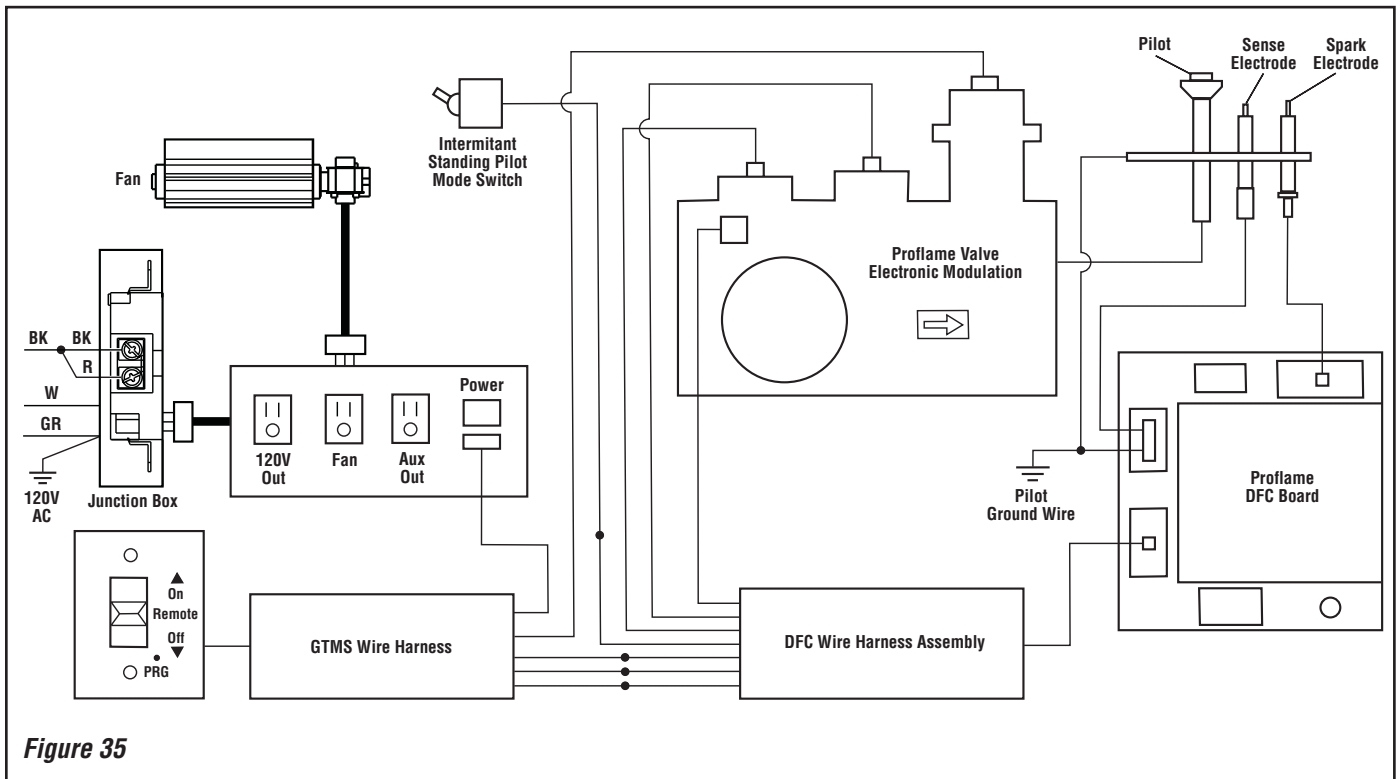

Figure 35
4. Connect the black power supply wire to the **lower outlet's** red and black pigtail leads and the white power supply wire to the **common** terminal of the outlet as shown in *Figure 35.*
IMPORTANT: Ground supply lead must be connected to the wire attached to the green ground screw located on the outlet box. See *Figure 35.* Failure to do so will result in a potential safety hazard. The appliance must be electrically grounded in accordance with local codes or, in the absence of local codes, the National Electrical Code, ANSI/NFPA 70-(latest edition). (In Canada, the current CSA C22-1 Canadian Electrical Code.)
Place the 3 position slider switch in the "Remote" position (*see Figure 35*). Using the end of a paper clip, or other similar object, insert the end of the paper clip into the hole marked "PRG" on the Receiver front cover. The Receiver will "beep" three (3) times to indicate that it is ready to synchronize with a Transmitter.